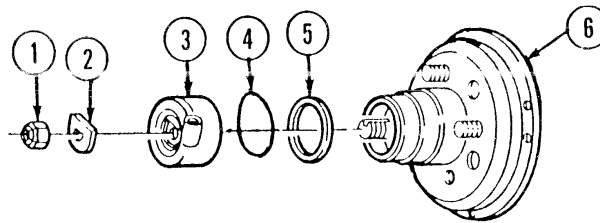

FIGURE 3-80
- (1) Remove locknut (1) and tabwasher (2). Discard locknut (1). (see figure 3-80)
- (2) Remove cylinder (3) from fan clutch (6).
- (3) Remove dust seat (5) from cylinder (3). Discard dust seat (5). (see figure 3-80)
- (4) Remove "O" ring (4) from inside cylinder (3). Discard "O" ring (4).
- (2) Install dust seal (5) in cylinder (3). (see figure 3-80)
- (3) Install cylinder (3) on fan clutch (6).
- (4) Secure cylinder (3) to fan clutch (6) with tab washer (2) and locknut (1). Tighten locknut (1) to 96 lb-in. (10 N•m).